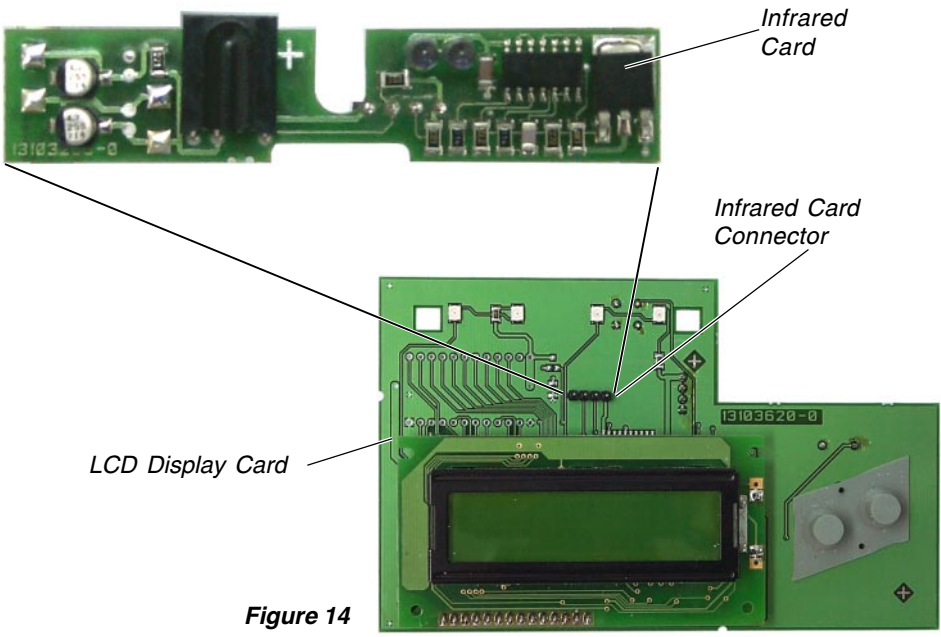

Figure 14
- 3.-Place the Infrared Transmission Card in the four-pin connector in the Display Card according to **figure 14**.